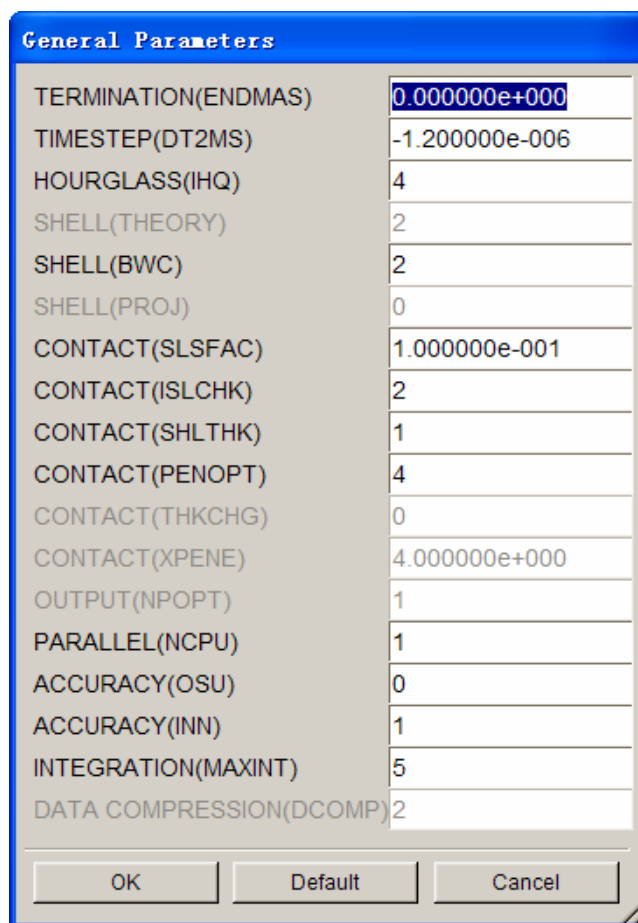

Figure 8.2.96 Basic Parameter Advanced Setup Interface
**ADVANCED...:** Advanced setup for basic parameters. The interface is shown in Figure 8.2.96.